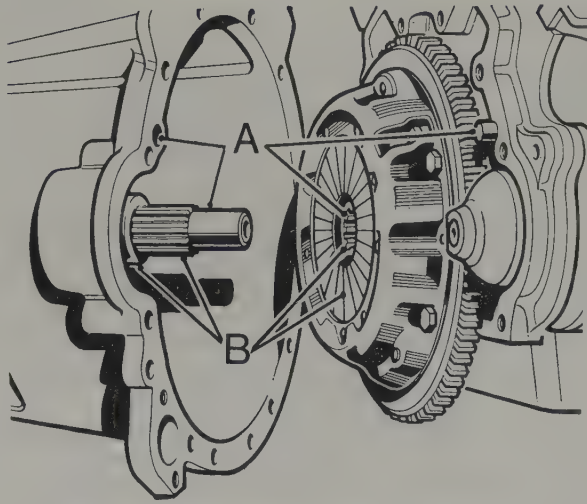

Fig. 1.66. Reassembling gearbox to engine
- 1 Refer to Fig. 1.66. The splined end of the gearbox input shaft, the clutch centre and the withdrawal unit abutment faces should be smeared with approved grease.